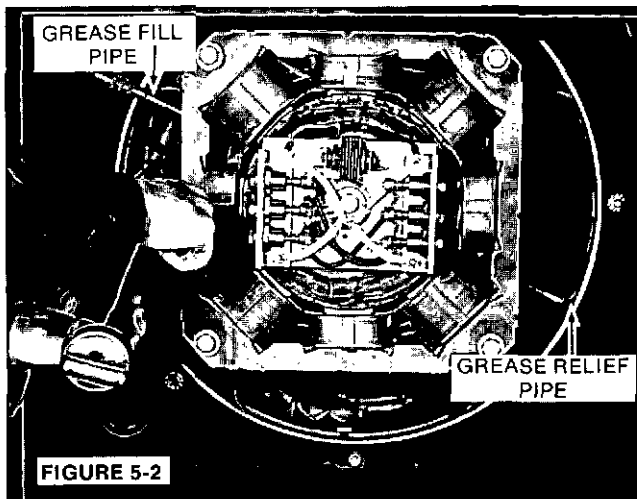

FIGURE 5-2
3. Remove fill and drain plugs. (Figure 5-2.)